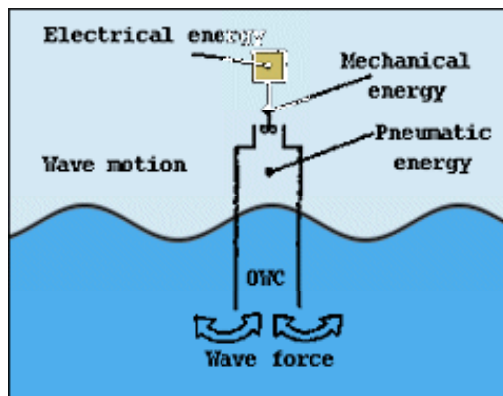

Figure 3
- (1) To demonstrate the energy transformations that take place in converting wave motion and force into useful work (Figure 3).
- (2) To have high school students develop an engineering solution for obtaining one-way rotation of a pneumatic turbine in a reversing airflow.
- (3) To suggest extended activities that the students can pursue on their own.